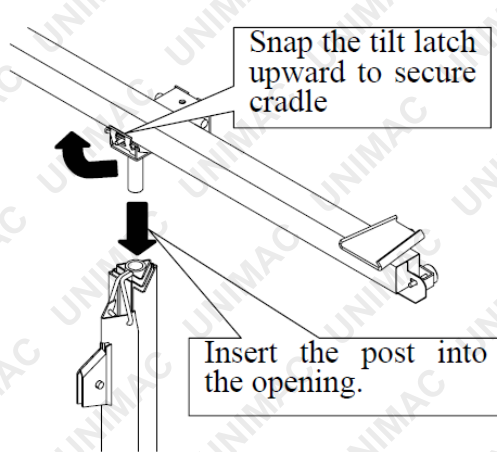

Fig. 10
- Secure the cradle to the frame by snapping the tilt latch upward so it hooks over the stud on the cradle as shown in Figure 10.